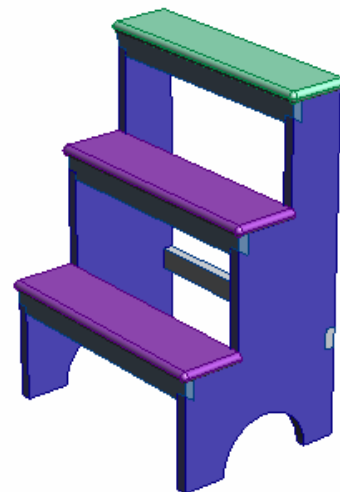

Figure 27. Assembly design loaded into Album.
54. If you do not have a design open, you can browse to open the assembly drawing. It will look like figure 27.